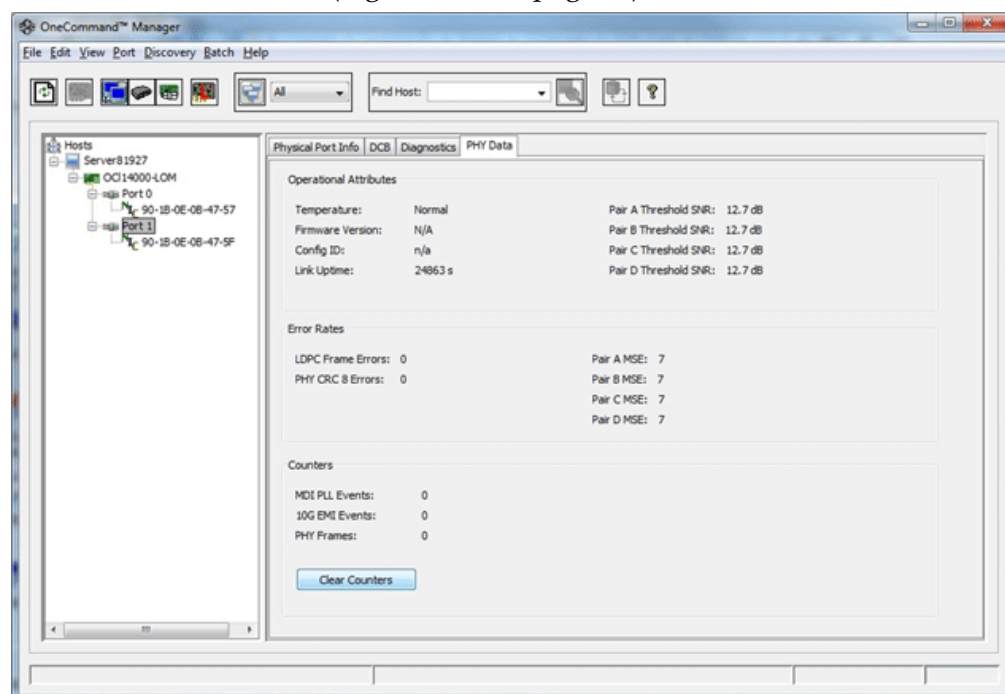

Figure 7-17 PHY Data Tab
The PHY Data Tab (Figure 7-17 on page 87) displays port level operational parameters, error rates, and counters that are protocol and personality independent for OneConnect 10GBASE-T adapter ports.
3. Select the **PHY Data** tab (Figure 7-17 on page 87).